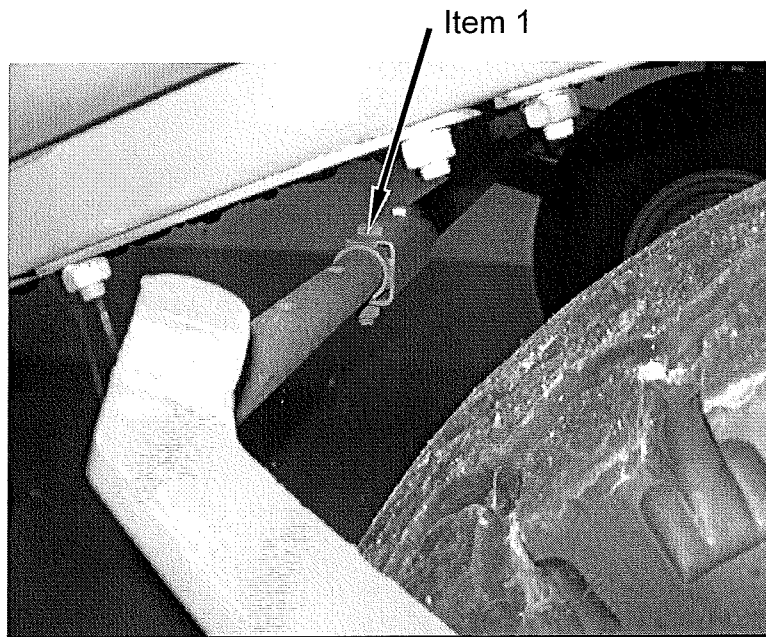

Fig 6.5
Remove the two bolts which hold the two halves of the track rod together (fig 6.5 item 1)
With the hydraulics and electrics connected operate the steering (see controls section 4) to centralise the steering ram. Switch off tractor and disconnect the hydraulics and electrics. Replace the two bolts which hold the two halves of the track rod together (fig 6.5 item 1) so that both wheels are in the straight ahead attitude, with out disturbing the ram position. The wheels should have a slight toe in attitude of approximately 25 to 30 mm (measured on the outside diameter of the tyre). Fine adjustment of the track rod can be achieved by removing the ball joint on the end of the track rod, loosening the lock nut and winding the ball joint in or out. Remember to retighten the lock nut when adjustments have been completed.